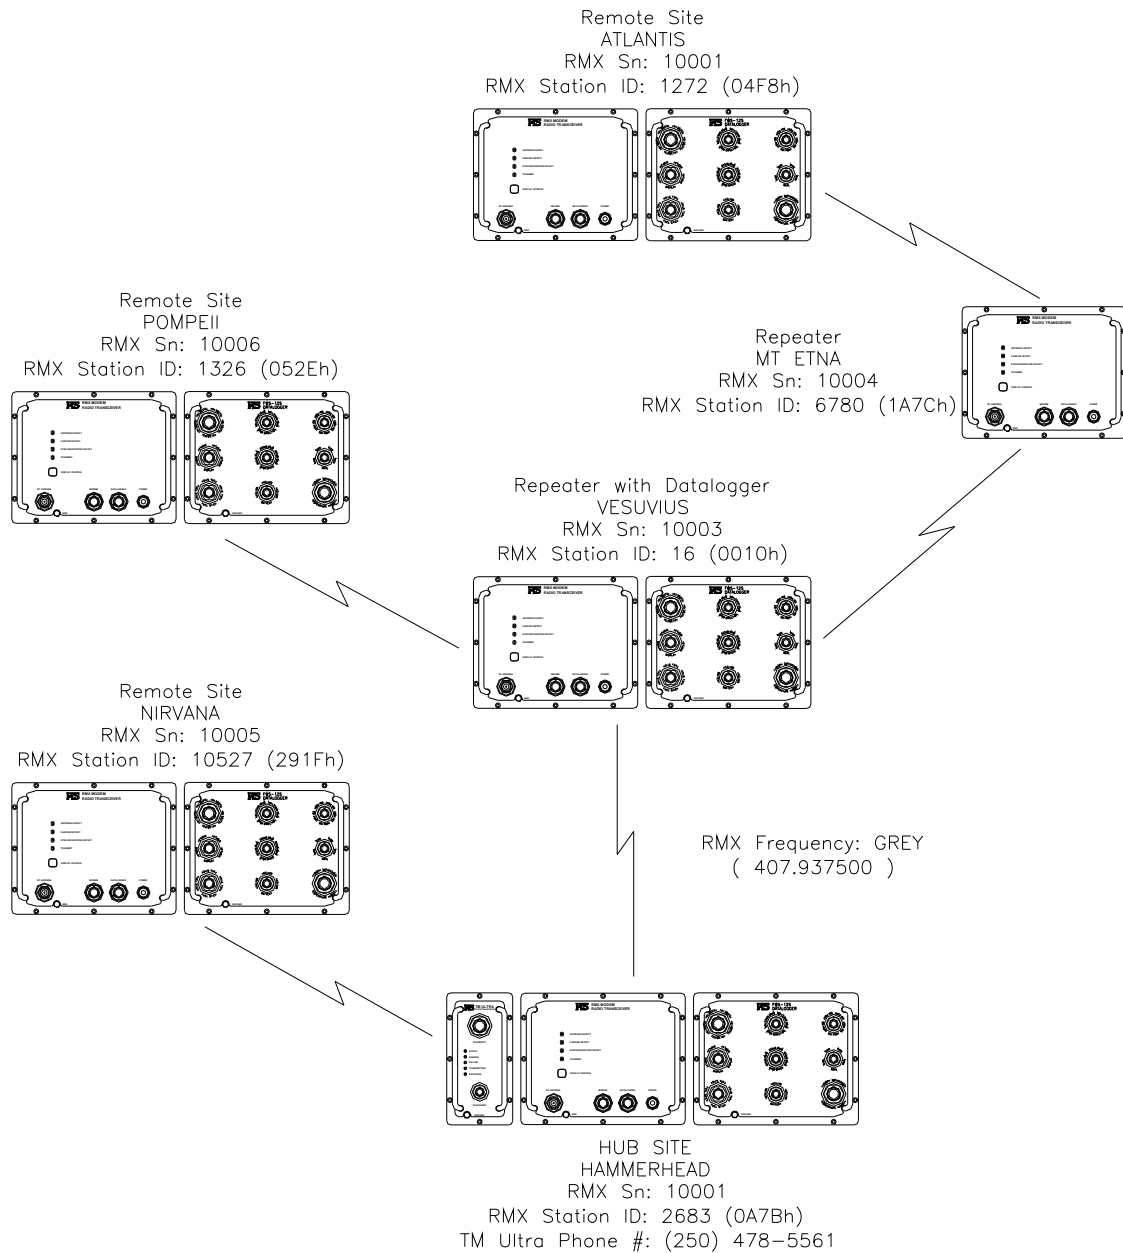

Figure 3: Typical RMX Cluster
Figure 3 below shows a typical RMX radio network where 1 Hub RMX is interconnected with 2 Repeaters and 3 Remote sites. As can be seen, each RMX in the cluster has a unique Station Identification. Equipment required for each configuration is detailed in the following sections.
When an RMX is operating as a Base Station (this configuration is not shown in Figure 3), the RMX is connected directly to a PC. This situation occurs when the RF coverage of the RMX network extends to the office where the data collection PC is located. The Base configuration is similar to a Hub except that a telephone modem is not required as the PC provides the communications access point into the radio network.
- 1) Create a Cluster Diagram, similar to Figure 3, which shows the RMX serial number and Station ID (decimal value and hexadecimal value – e.g. Station 1234d = 04D2h). The cluster diagram will be extremely helpful when performing radio link checks through the RMX diagnostic interface.